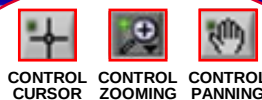

Figure 20. Main Window
When the software starts running, it searches for hardware connected to the PC. A dialog box indicates when the generic SDP attached to the PC is detected, and then the main window appears (see Figure 20).
The main window of the software (see Figure 20) contains the significant control buttons and analysis indicators of the AD7176-2 software.
Clicking **ADC Setup**, located near the top left of the main window (see Figure 20), opens the **AD7176-2 Register Interface** window.
Clicking **Start Sampling**, located near the top right hand corner of the main window (see Figure 20), starts ADC sampling; results are reported in the graphs of the **DATA** and **ANALYSIS** sections of the main window.
The indicators beside this graph show the latest data value, the channel being converted, and the flag for the error diagnostics of the AD7176-2. Navigation tools are provided to allow you to control the cursor, zooming, and panning (see Figure 20).
The graph in the bottom half, or **ANALYSIS** section, of the main window, shows the histogram analysis; to the right of the graph, the respective noise analysis on the indicator is shown. Navigation tools are provided to allow you to control the cursor, zooming, and panning (see Figure 20).
4. Use the navigation tools within each graph to control the cursor, zooming, and panning (see Figure 20).